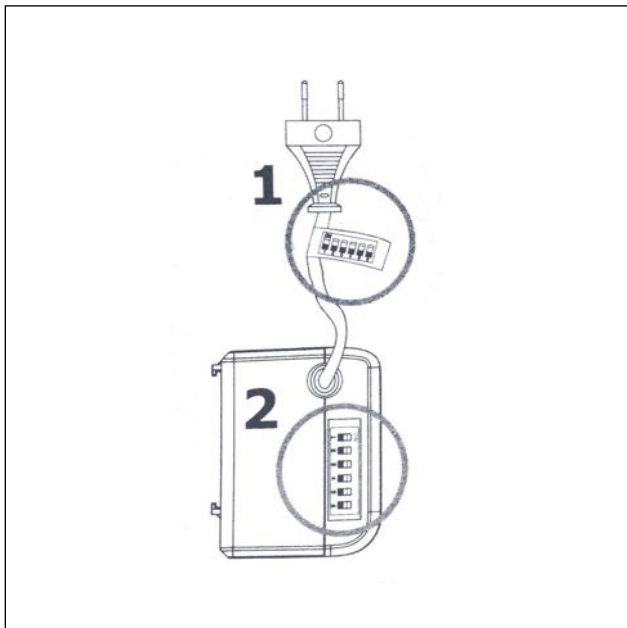

Figure 5
1. Locate the DIP switch code on the power cord of the control box. The code is also available on the control box. (Figure 5)